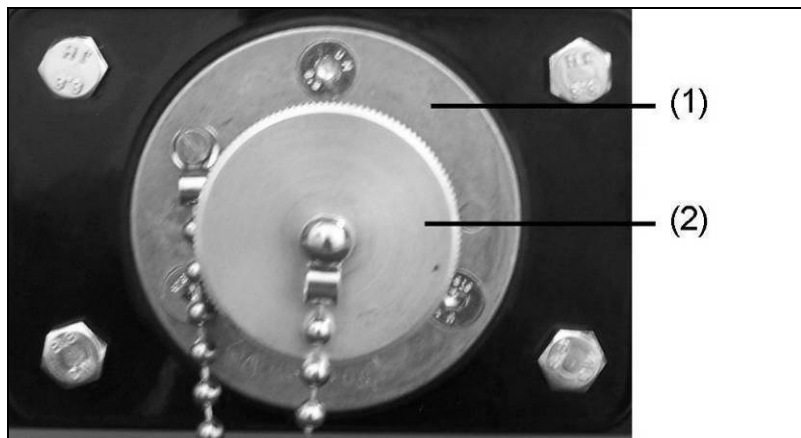

Fig. 5-7: Connecting up the battery charge conservation device
1. Unscrew cover (Fig. 5-7-(2)) for socket (Fig. 5-7-(1)) for the starter battery charge conservation device.
2. Screw on protective cap (Fig. 5-7-(2)) for charge conservation device socket.